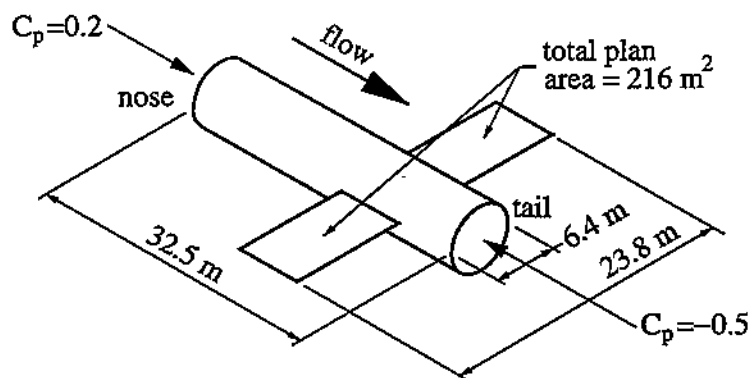

Figure 4: Simplified model of glider.
- (b) The glider has a rather complicated shape, so for the purpose of estimating its drag coefficient, it is modelled as a cylinder and a pair of rectangular wings with dimensions as shown in Figure 4. The boundary-layer drag coefficient of the cylinder can be considered to be the same as for a flat plate. Pressure coefficient over the nose is 0.2 (to take account of the rounded nose) and the pressure coefficient over the tail-end of the cylinder is -0.5. Estimate the total drag coefficient of the glider (C_{Dg}) at the landing speed of 103 m/s. The pressure coefficients for the nose and tail are based on the diameter of the cylinder, but your value for C_{Dg} should be based on the actual projected frontal area of the glider, $A_f = 62.8 \text{ m}^2$.